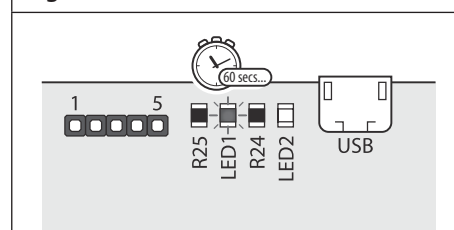

Fig. 34
4. The red LED (LED1) will then start to flash for approximately 60 seconds while it resets the master code back to **1111 (4x1)**, as shown in **Fig.34**;